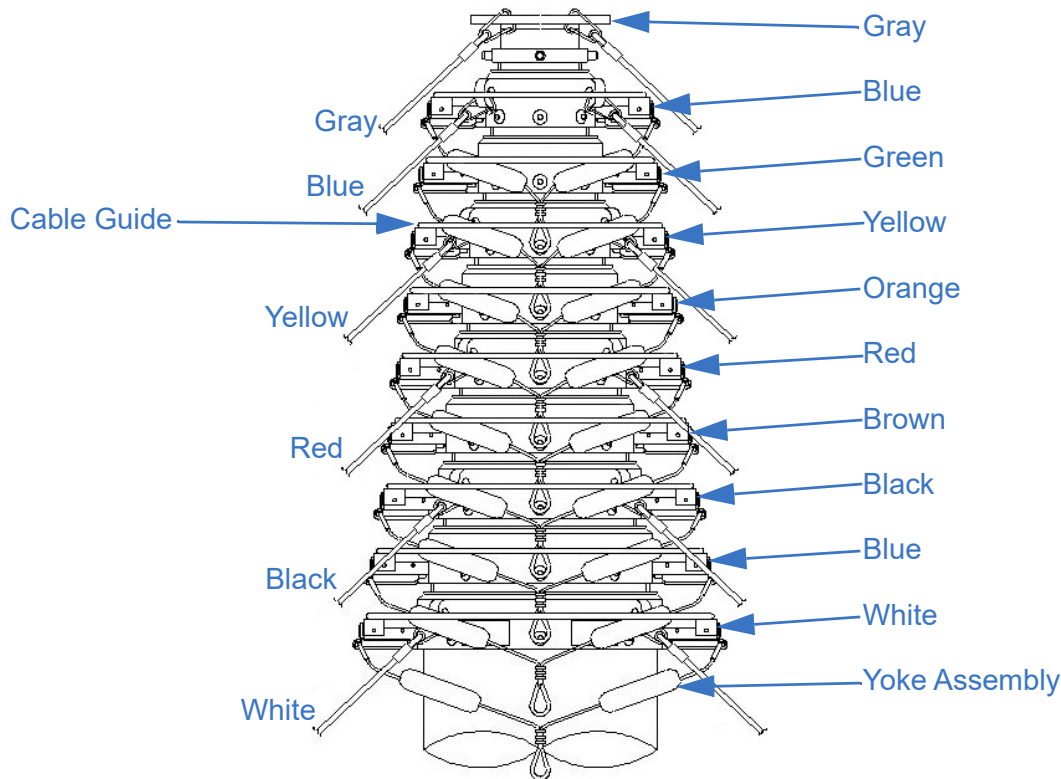

Figure 6-9 Sample of Guy Line Attachment on a Mast with Cable Guides (Mast with Trip Lines Shown)
4. Attach the guy lines to the color-coded lugs on the collars. If cable guides are present, ensure the guy lines are outside the cable guides for the collars below where they attach (Figure 6-9).